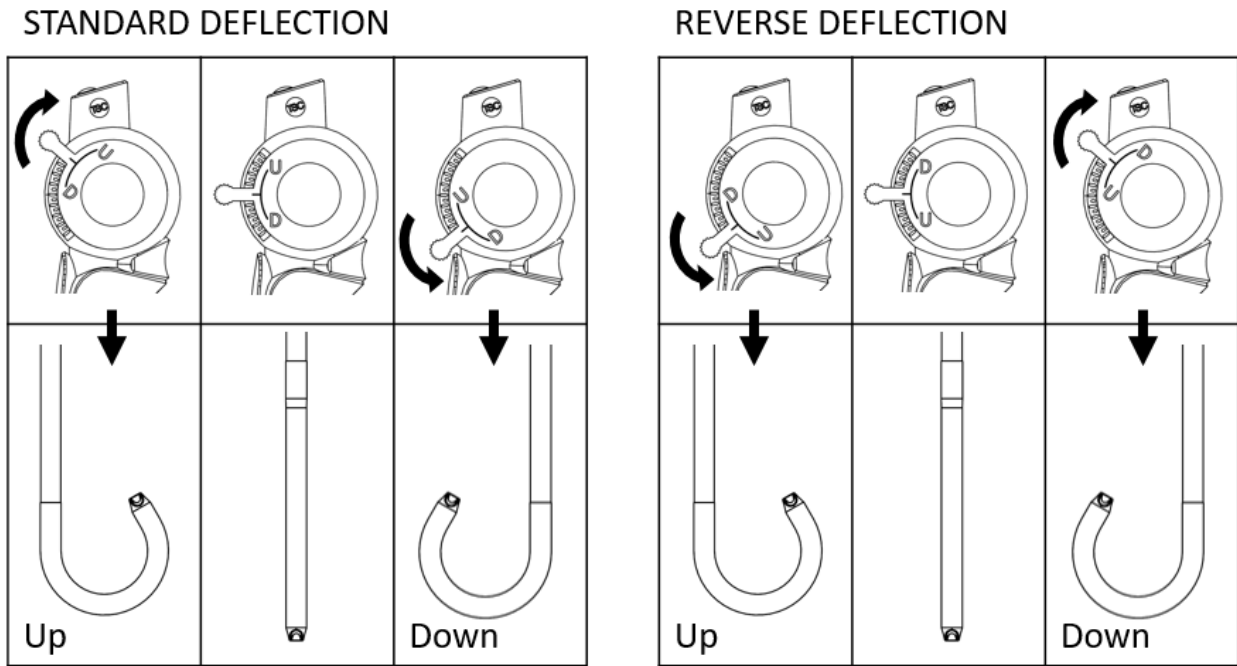

Figure 1. Articulated deflection control movements depend upon the model used
3. Make sure that the articulate part functions smoothly and correctly, by sliding the deflection lever in the up and down position. Confirm the deflection model: the articulation control can be *Standard* (lever up=tip up) or *Reverse* (lever up = tip down) (**Figure 1**).